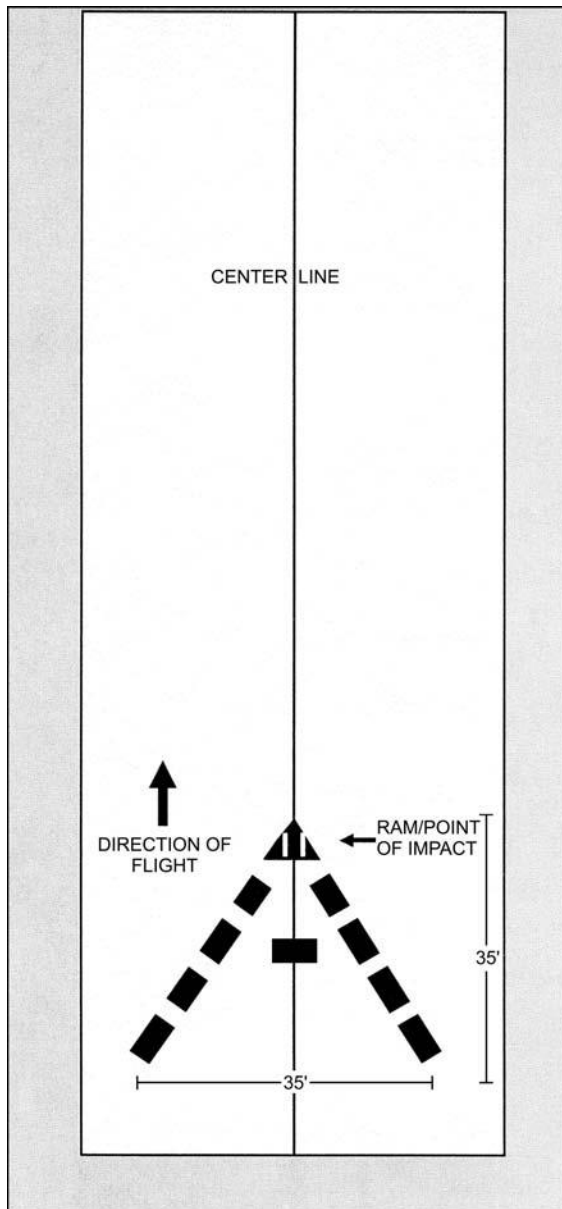

Figure 22-1. Day CARP drop zone markings.
a. **CARP Points of Impact** (Figures 22-1 and 22-2, page 22-2). The PIs for CARP operations are as follows: